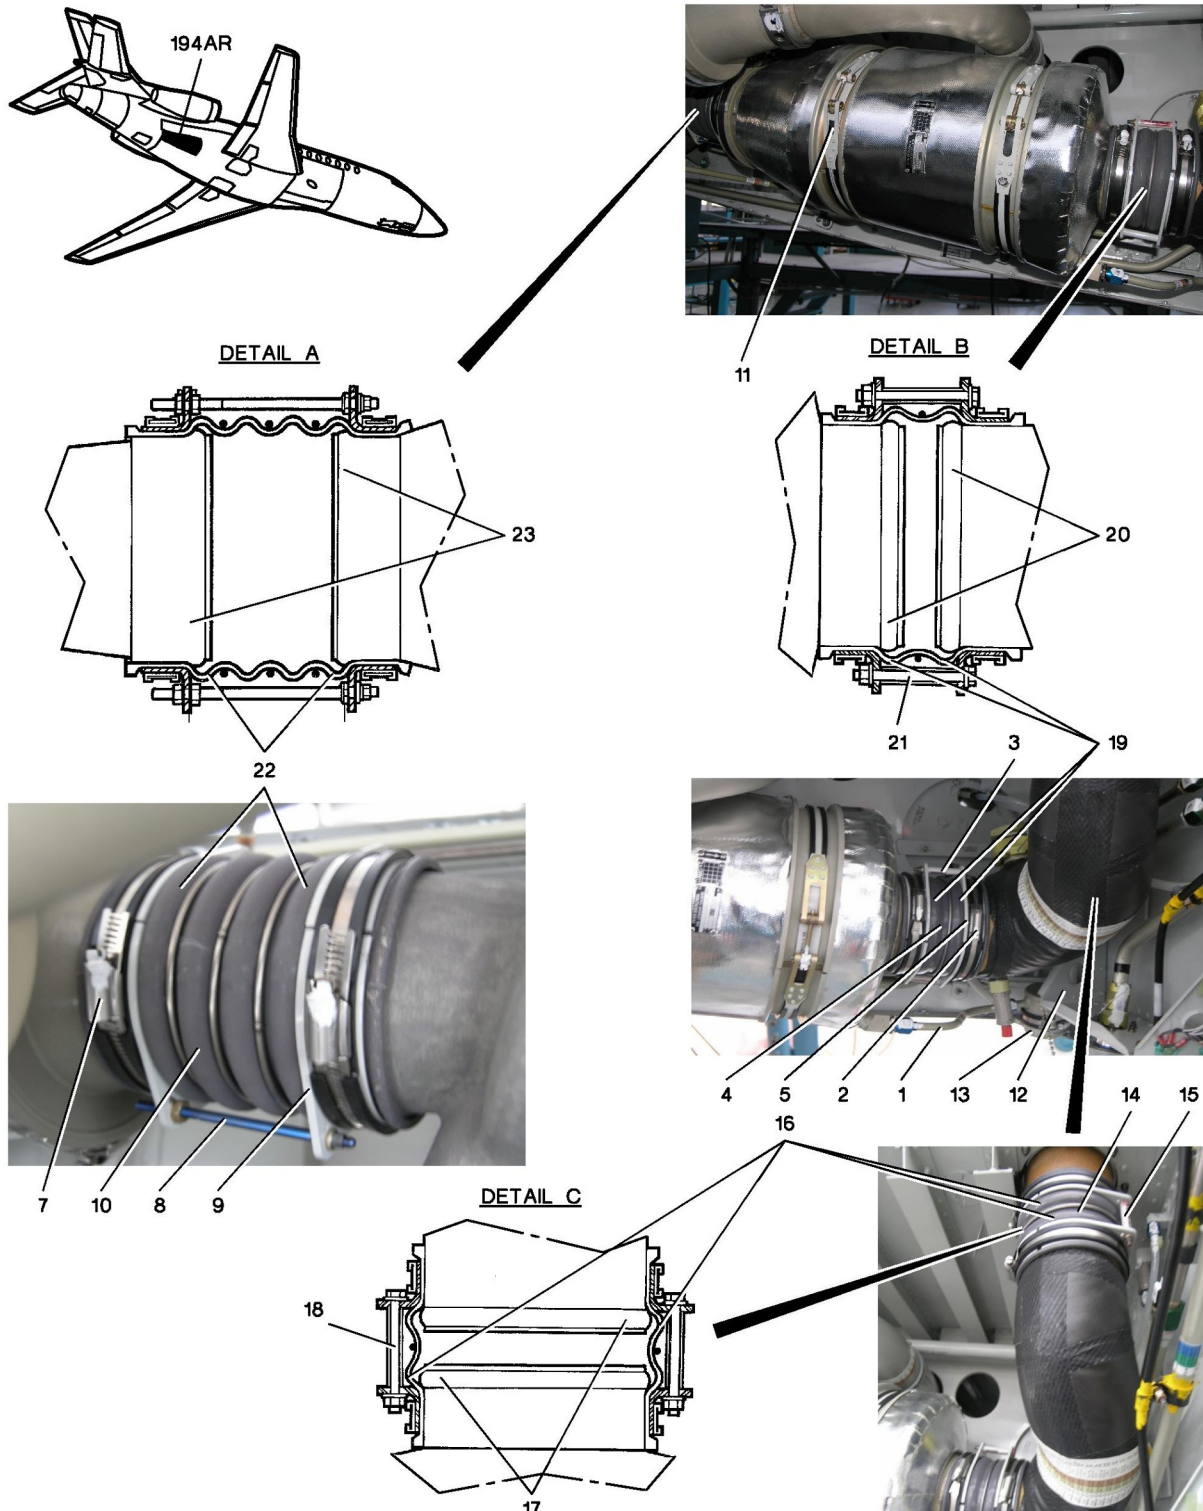
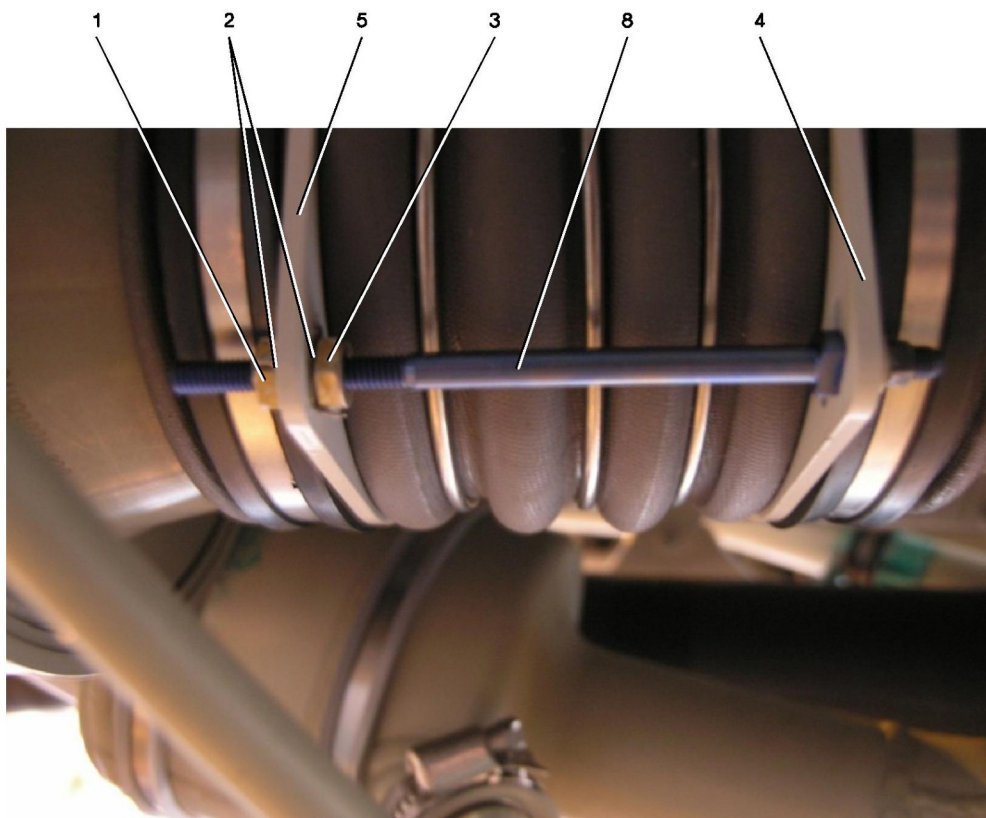

Figure 1: REMOVAL/INSTALLATION OF LP WATER SEPARATOR
Figure 4: ADJUSTMENT OF TIE-BOLTS (8)
Refer to **fig. 1**
Refer to **fig. 1** and **fig. 4**
- E. Slightly unscrew nut (3).
- F. Install the half-bracket (5) on the tie-bolt (8) with the two nuts (3) and (1) and two new lockwashers (2) (33350CA048).
- G. Install the two half-brackets (5) and (4) (**fig. 4**) on the flexible sleeve (10) (**fig. 1**).
- H. Install the two FLEXINOX clamps (7) (**fig. 1**) (Refer to TASK 20-41-00-900-809).
- I. Screw the nut (3) until it comes into contact with the half-bracket (5).
- J. Screw nut (1) until it comes into contact with the half-bracket (5).
- K. Tighten the two nuts (1) and (3) together.
- L. Safety the two nuts (1) and (3) with the lockwashers (2).
- M. Make sure that the flexible sleeve (10) is in correct position (**fig. 1**).